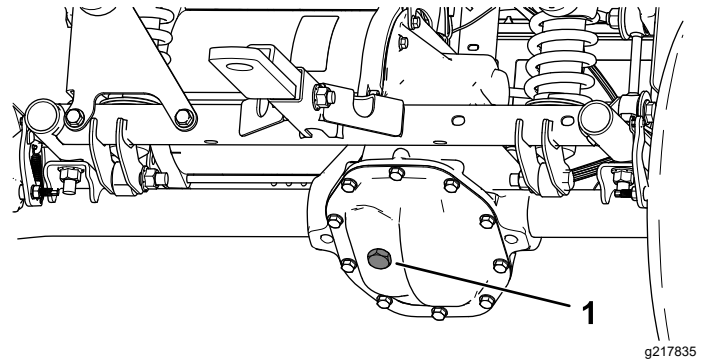

Figure 53
4. Remove the fill plug on the transaxle (Figure 53).
5. If the fluid level is low, remove the fill plug and add the specified fluid until it runs out of the hole (Figure 53).
4. Remove the fill plug on the transaxle and fill the transaxle with the specified fluid until it runs out of the fill hole (Figure 53).